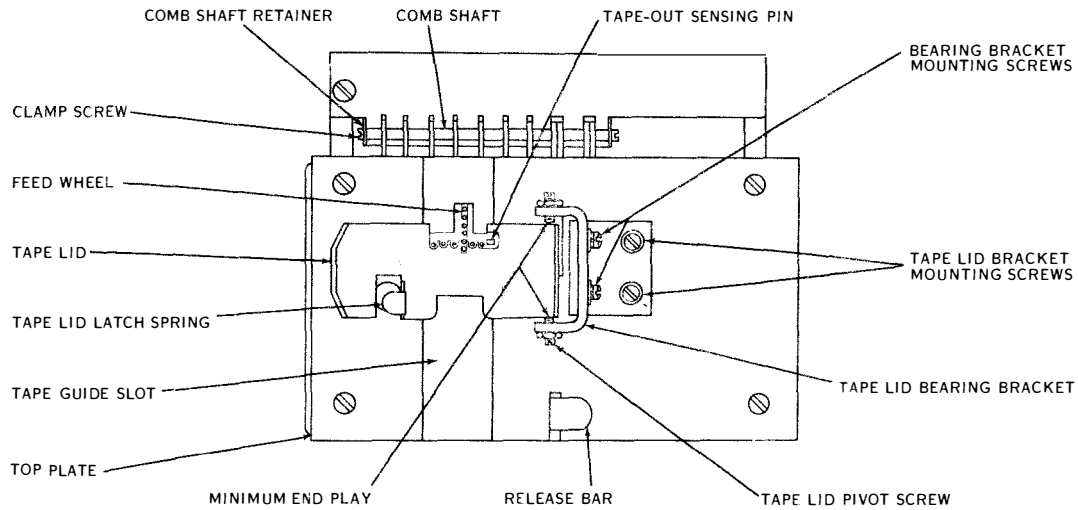

Figure 7-100. Tape Lid (Vertical)
(37) TAPE LID PIVOT SCREW. (See figure 7-100.)—The tape lid should be centered in the tape lid
(38) TAPE LID (VERTICAL). (See figure 7-100.)—The tape lid should rest flatly along both edges of the tape guide slot in the top plate. To adjust, loosen the two tape lid bearing bracket mounting screws and position the tape lid to meet the above requirements.
(d) To adjust, loosen the tape lid bracket mounting screws and position the tape lid to meet all the above requirements. Retighten the mounting screws while holding the tape lid in place (see figure 7-100).